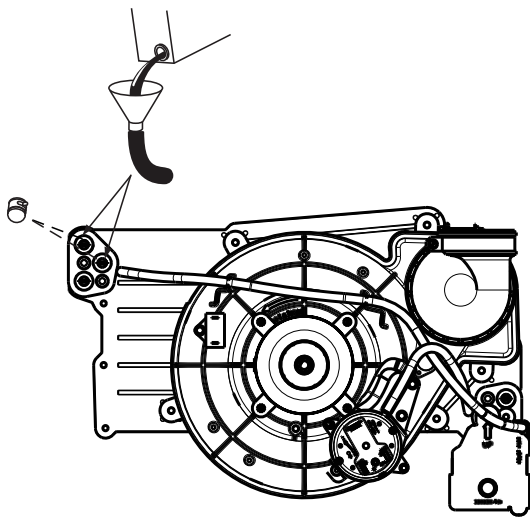

Fig. 60 – Priming Condensate Trap
1. Remove upper and middle collector box drain plugs opposite of the condensate trap. See Fig. 60.
2. Connect field-supplied 5/8-in. (16 mm) ID tube with attached funnel to upper collector box drain connection, see Fig. 60.